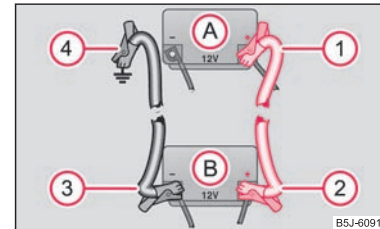

Fig. 157 Jump-starting using the battery from another vehicle: A – flat vehicle battery, B – battery providing current
- Attach one end (1) to the positive terminal ⇒ fig. 157 of the discharged battery (A).
- Attach the other end (2) to the positive terminal of the battery supplying the power (B).